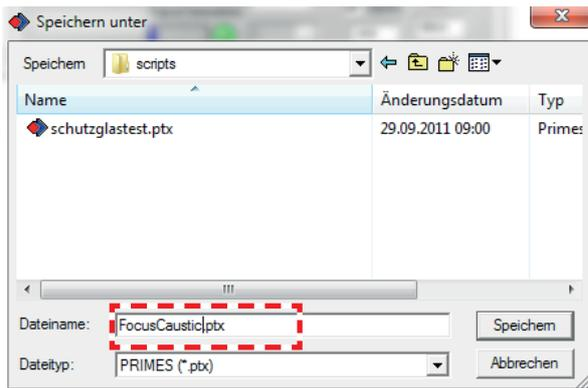
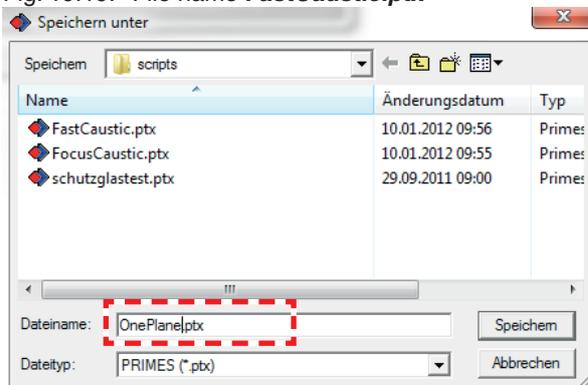

Fig. 19.18: Menu **File**>>**Save as ...**
Fig. 19.20: File name **One plane.ptx**
3. Choose the directory of the scripts (in this case *c:\Program Files (x86)\Primes\LDS\scripts*) and save the preference files named as shown in Fig. 19.18 on page 53 to Fig. 19.20 on page 53.